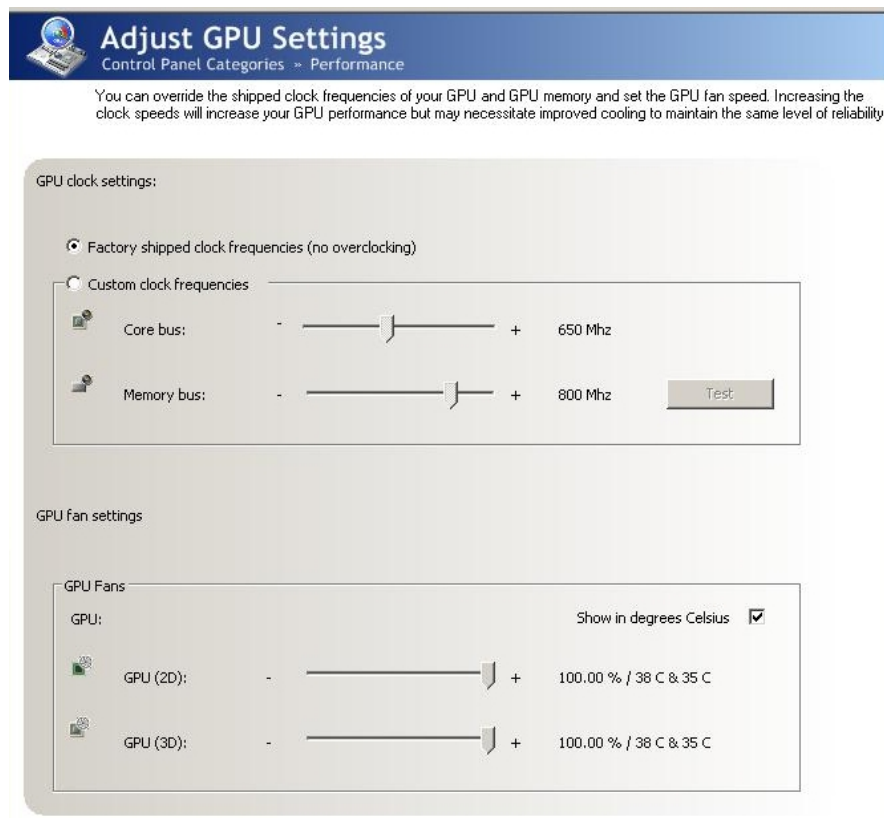

Figure 14. GPU Core and Memory Frequency Settings
3. Select **Adjust GPU Settings** and you will be brought to the screen shown in Figure 14. In this menu you are able to adjust the core bus and memory bus speed by using the slider bars